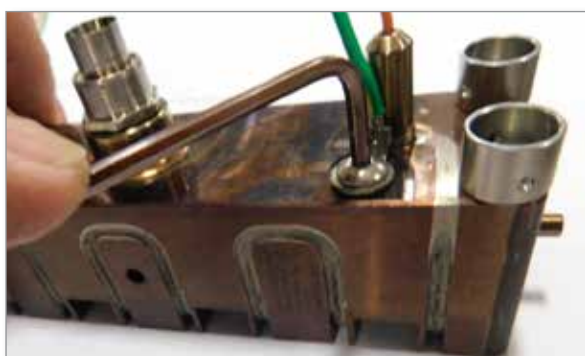

Figure 5-90 Secure the ground wire
2. Secure the ground wire with the retaining screw. See Figure 5-90.